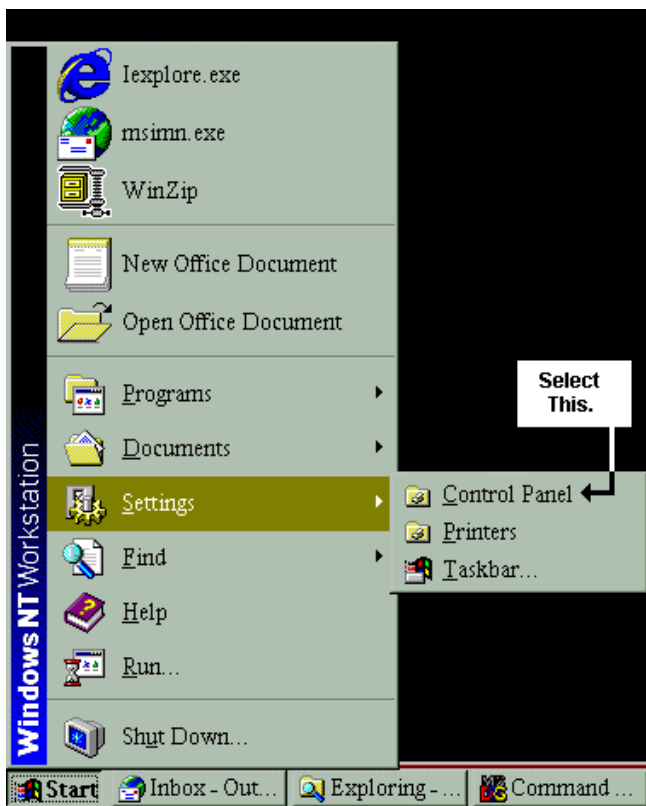

Figure 3-5
1. Using either Windows 95®, 98® or Windows NT®, select **Start | Settings | Control Panel**. (see Figure 3-5)